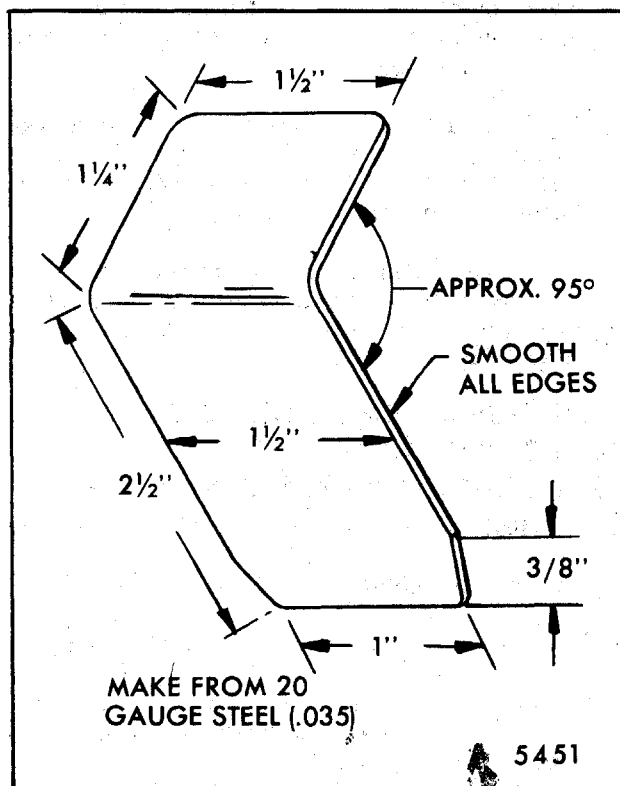

Fig. 9-28-Head Restraint Antiremoval Lock Releasing Tool - 1975, 1976 and 1977 "A, E and X" Styles
NOTE: A head restraint lock releasing tool, shown in Figure 9-28, can be made from 20 gauge (0.9 mm) steel stock. The edge of this tool will release the spring lock tab on 1975 and 1976 "B, C, E and D" body styles; the flat surface will release the spring lock tab on 1975, 1976 and 1977 "A and X" body styles.
- On "A, E and X" styles, insert lock release tool (Fig. 9-28) or suitable flat piece of metal 1-9/16" wide down front surface of head restraint post approximately 2-1/2"; then lift head restraint out of guide tube.